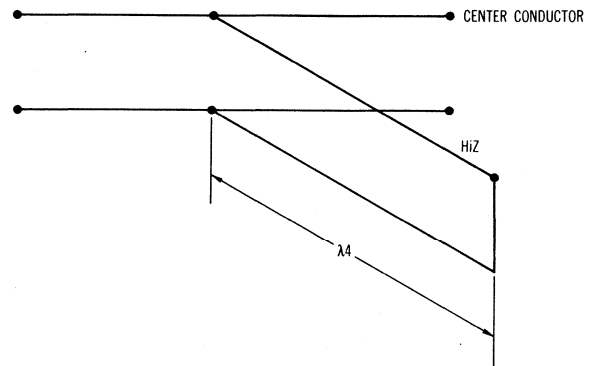

Figure 7. Quarter-wave dc return lines.
(1) A  $\lambda/4$  wavelength shunt transmission line can be used, as shown in Figure 7. The impedance of the shunt line should be high for maximum bandwidth. Easily obtainable impedance values give a good match over a bandwidth greater than one octave.